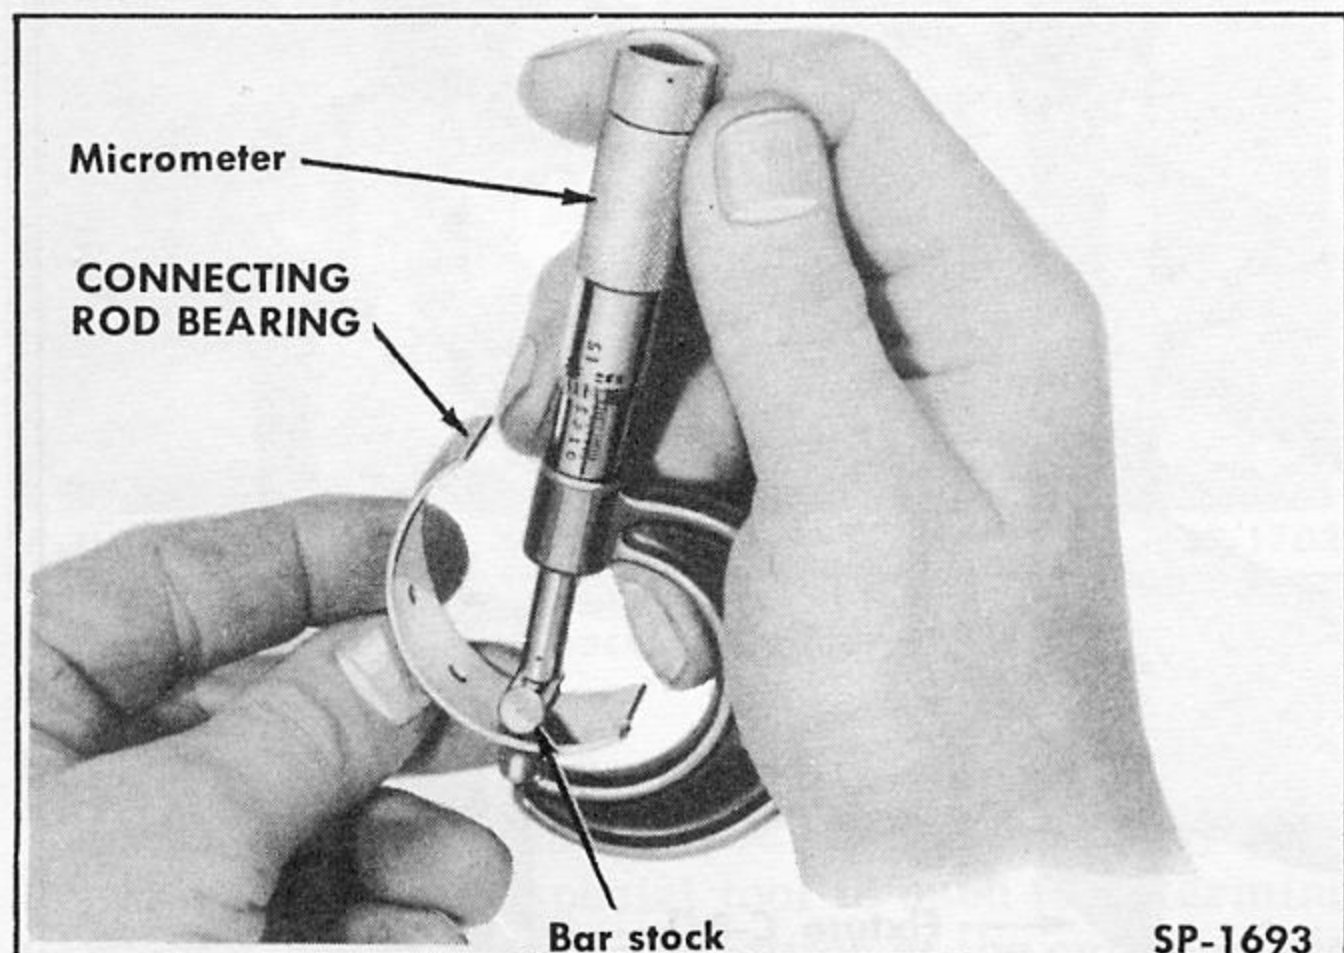

Fig. 39—Measuring Connecting Rod Bearing Thickness
5. If connecting rod bearings are worn, cracked, flaked, or scored, they should be replaced. The thickness of the standard bearing is .0520-.05225 inch on four cylinder engines and .0520-.0523 inch on six cylinder engines and may be checked with a micrometer and a piece of finished round bar stock as shown in Fig. 39.